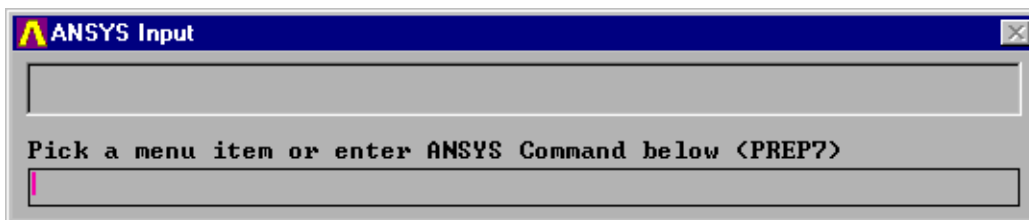

Figure 10: **ANSYS Input** window
- ☒ Enter *mcp\_unit=1.0e-6* in the **ANSYS Input** window (Figure 10).